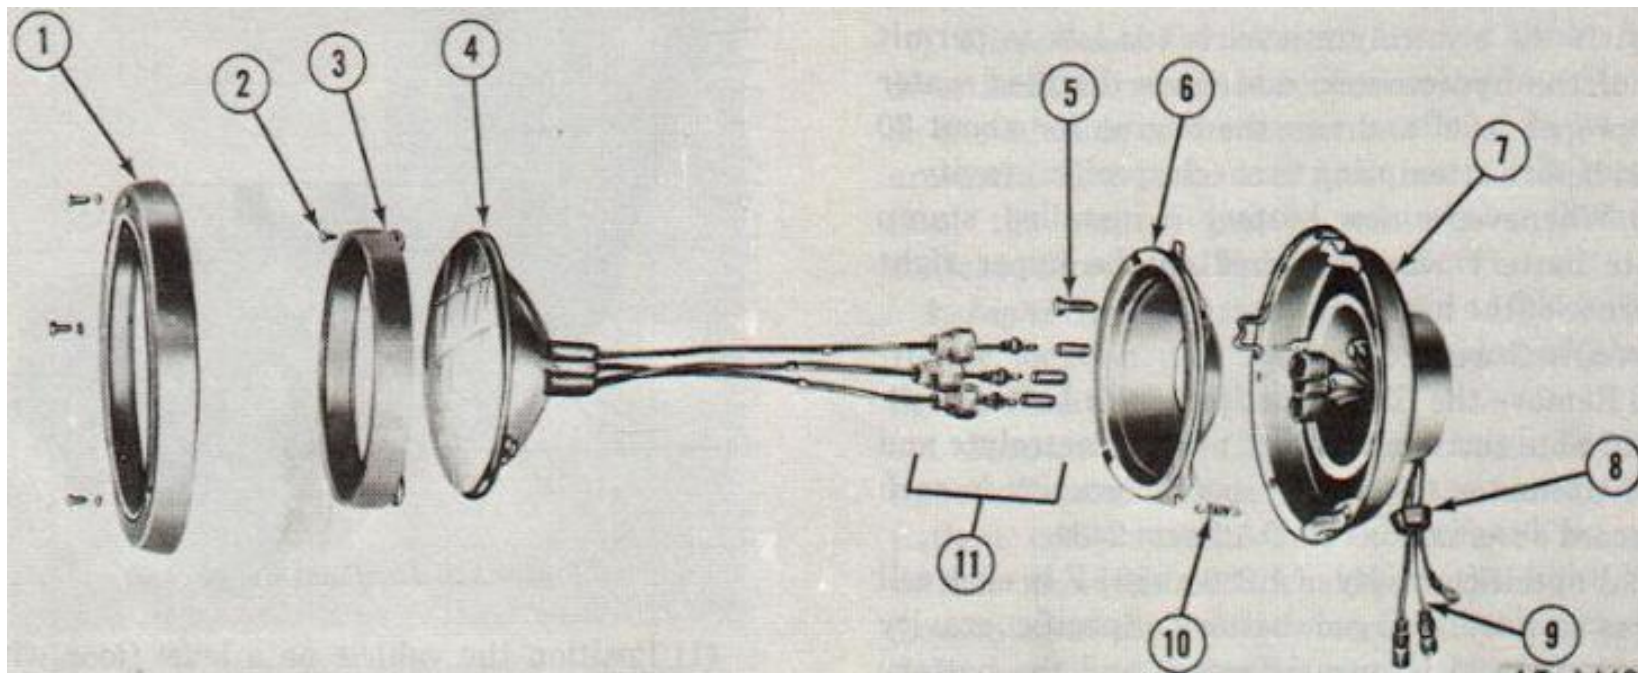
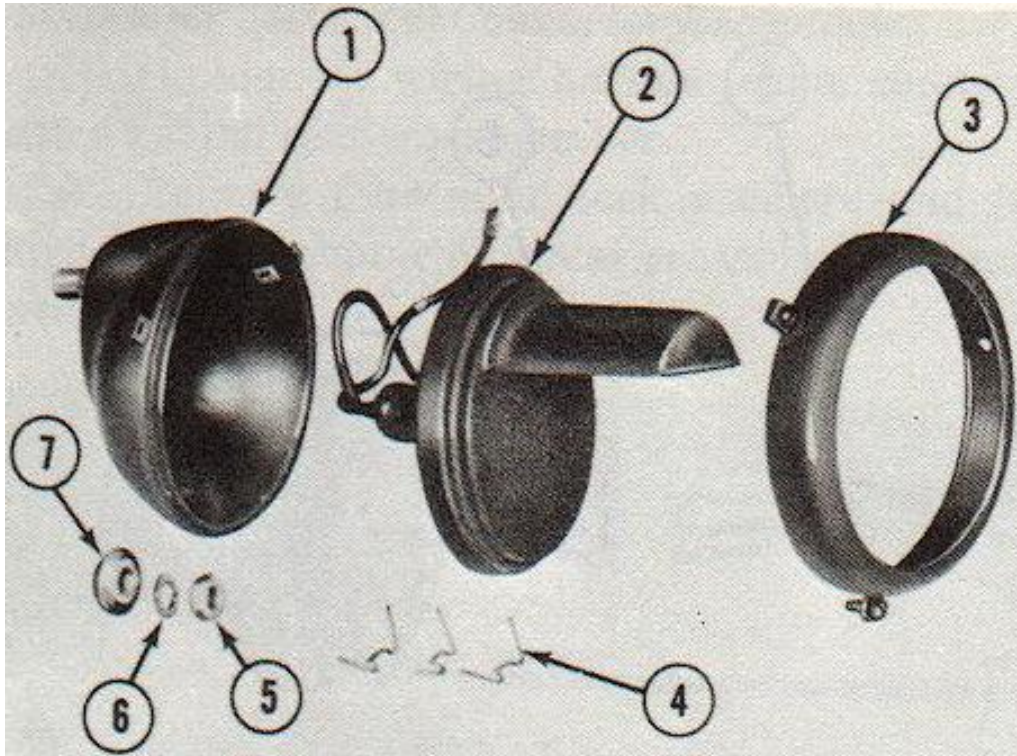

Figure 2-41. Head Lamp exploded view.
Figure 2-42. Blackout driving light exploded view.
(1) Remove batteries as outlined in paragraph above.
(2) Remove six bolts and lock washers which secure battery tray to floor panel and remove battery tray.
c. Service Headlight Sealed Beam Unit. (Fig 2-41)
(1) Remove three headlamp door retaining screws and remove door.
(2) Disengage spring from sealed beam retaining ring.
d. Service Headlight Housing. (Fig 2-41)
- (1) Remove sealed beam unit as outlined in (c) above.
- (2) Disconnect three wiring harness cable connectors at rear of housing.
- (3) Remove three nuts and washers which secure housing to front end sheet metal and remove service headlight housing assembly.
e. Blackout Driving Lamp Sealed-Beam Unit. (Fig 2-42)
- (1) Remove the three screws securing door to light body.
- (2) Pull door and sealed-beam lamp assembly forward and remove waterproof connectors from connector clips.
- (3) Disconnect waterproof connectors.
- (4) Remove the lamp unit retaining springs and remove lamp unit from door.
f. Blackout Driving Light Housing. (Fig 2-42)
- (1) Disconnect electrical connector at rear of housing.
- (2) Remove nut, lock washers and centering washer which secure housing to mounting bracket.
- (3) Remove four hex socket bolts which secure lamp housing bracket to sheet metal.
(4) Remove light housing and bracket.